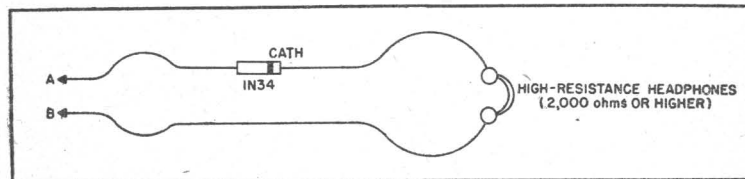

Figure 4. Circuit of Simple DC Polarity Checker.
- Figure 4. Crystal: 80v. WG7A }
A CRYSTAL diode and headphones may be used to check dc polarity when no other means is available. The simple arrangement for making this test is shown in Figure 4. Headphones must be the wirewound, not crystal type. The crystal diode must be connected with the polarity shown in the diagram; that is, with the crystal anode terminal "leading." When point A is touched to the positive terminal of the voltage source and point B to the negative terminal, a